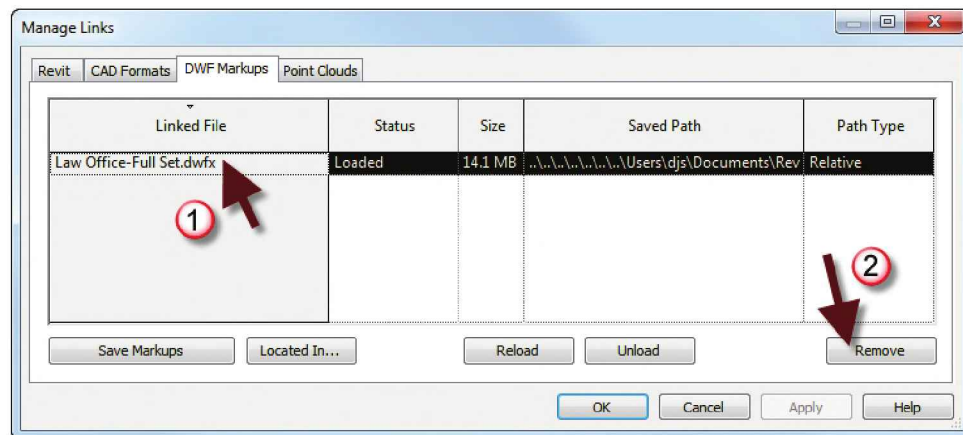

FIGURE 16-3.9 Markup overlay – revision cloud selected with properties shown
- On the *DWG Markup* tab (Figure 16-3.9) select the markup and then click **Remove**.